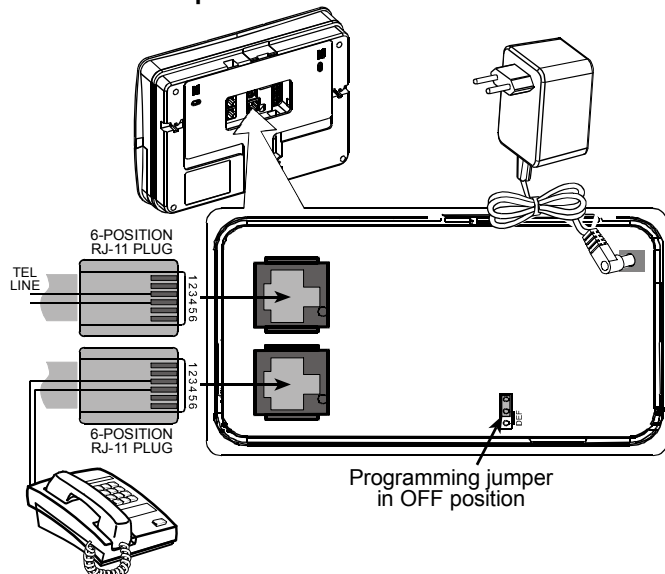

Figure 2 - Power and Telephone Connection
1. Set the PROGRAMMING jumper to DEF position (see Fig. 2). All the LEDs should flash to indicate that the system is in programming mode.